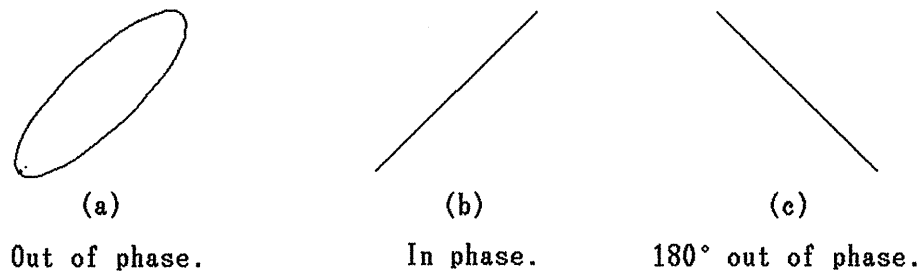

Figure 4-2
- 2) Press the ⑬ **YES**, ⑪ **SET** (MONO) keys to set output level 3.00Vp-p (internal modulation generator 1kHz, monophonic modulation level 100%).
- 3) Press the ⑬ **YES**, ⑪ **100%** (MAIN) keys to set stereo modulation level 90% ⑩ pilot level 10%.
- 4) If the internal modulation generator is not at 1kHz, press the ⑫ **1kHz** key.
- 5) Press the ⑪ MODULATION FUNCTION **ON** key to turn it off and set modulation level 0%, pilot level 10%. If oscilloscope input sensitivity is set to X INPUT 200mV/DIV, Y INPUT 50mV/DIV, waveforms similar to the ones shown in Figure 4-2 appear on the oscilloscope, so rotate the ⑥ SCOPE PHASE semifixed adjuster, adjusting so a waveform like Figure 4-2 (b) is formed.